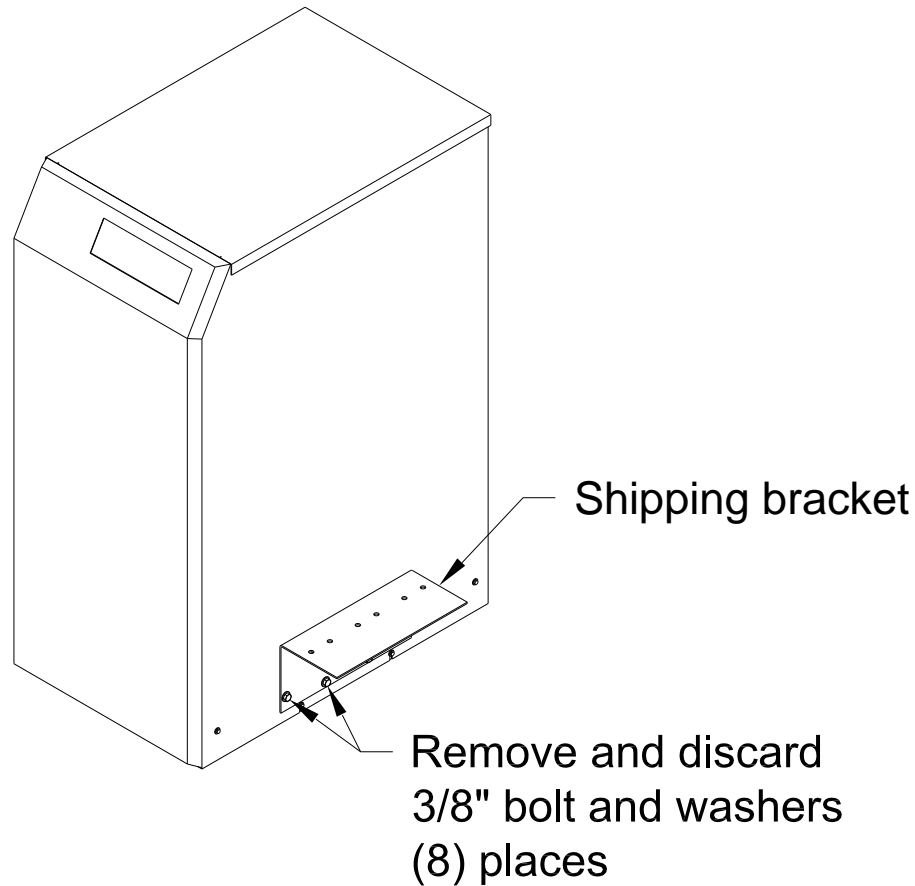

Figure 4 - Shipping Bracket
8. Remove the (8) 3/8" bolts mounting the shipping brackets to the UPS and remove the brackets (see figure 4).
The stay rod and cotter pins (see figure 4) that are supplied in the same zip bag as this manual must be saved to be used by a qualified service technician. The stay rod will allow the technician to hold the lifted top shelf in place while servicing the UPS. This rod must be removed after use and stored outside the UPS for use at a later date.